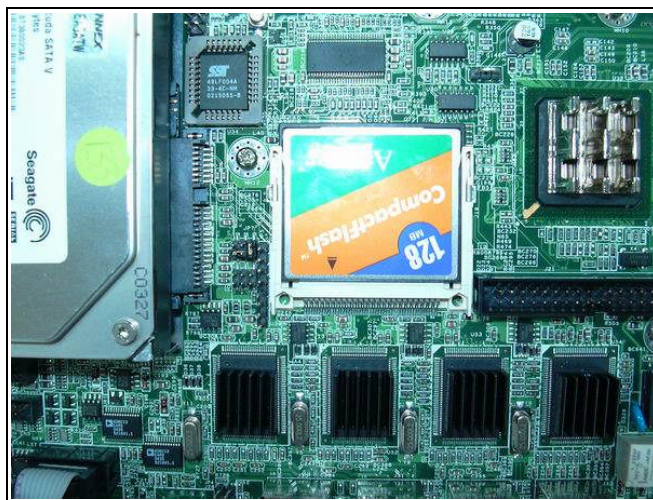

Fig. 2-8 Completion of Compact Flash Card connection
1. Insert the Compact Flash Card (**Fig. 2-7**) into the CF interface (**Fig. 2-8**).
2. The completed installation of Compact Flash Card is shown as **Fig. 2-8**